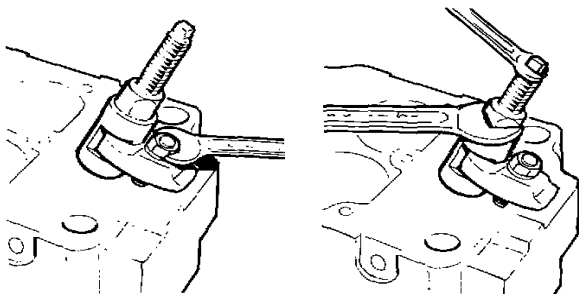

Fig. 141. Flaring the copper sleeve
12. Secure the tool stem and screw down the large nut, thus pressing the "flaring" pin through the lower end of the copper sleeve (fig. 141).